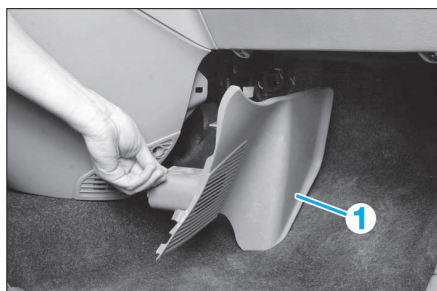

FIG. 20
- Déposer la garniture (1) (Fig.20).